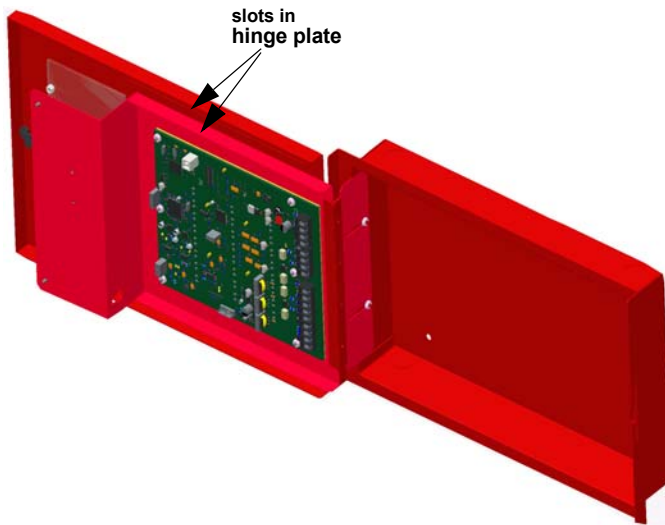

Figure 3 TR-RPU Dead Front Panel Open at 180°
3. Open the dead front panel 90 degrees and then pull the dead front forward. Tighten the two nuts. The dead front panel can be opened at 180°. Refer to Figure 3.
Figure 3 shows the TR-RPU dead front panel door assembly.